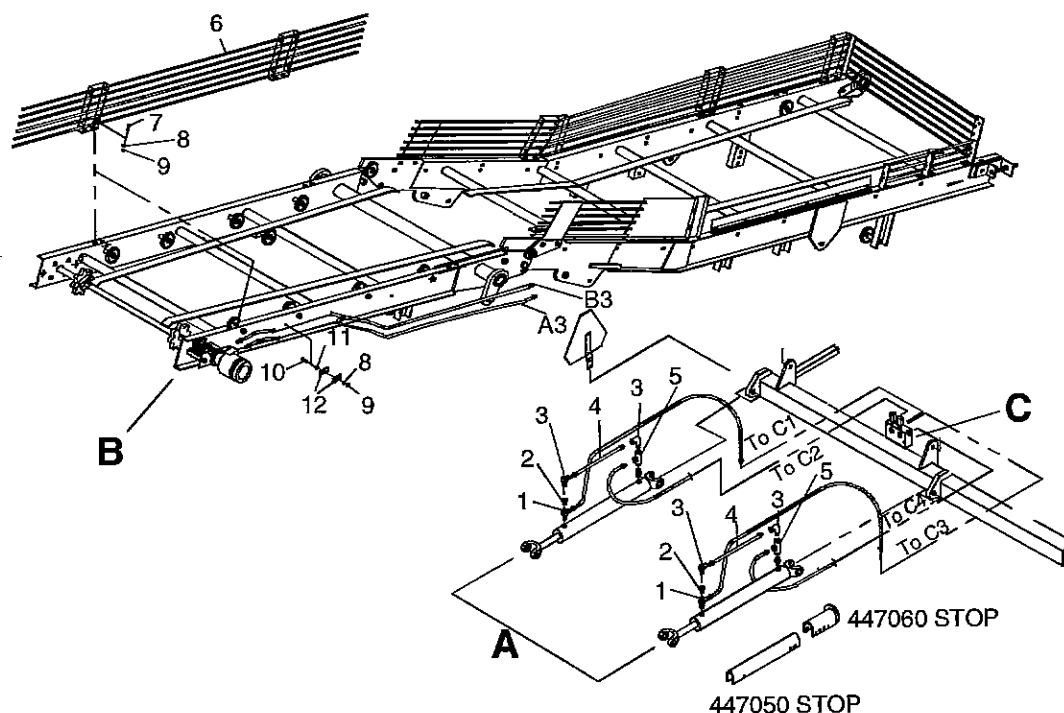

Figure 75. Boom Elevator Cylinders and Grate
Install the boom elevator hydraulic cylinders (Figure 75-A) with U-Stops, SMV sign, and boom elevator grates, and connect the boom elevator hydraulic motor as shown in the Figure below. Refer to the bill of materials for a listing of components.
1. Using a hoist, support the truck elevator boom (Figure 75-B).
2. Install the check valves and hoses to the cylinders as shown in Figure 75.
3. Remove the shipping brace for the truck elevator boom and install the hydraulic cylinders (Figure 75-A). Plumb the hoses to the flow divider (Figure 75-C). Using the wire ties provided, secure the boom cylinder hoses to the support channels of the elevator.
4. Install the truck elevator boom grates (Figure 75, Item 6) using the provided 3/8" hardware.